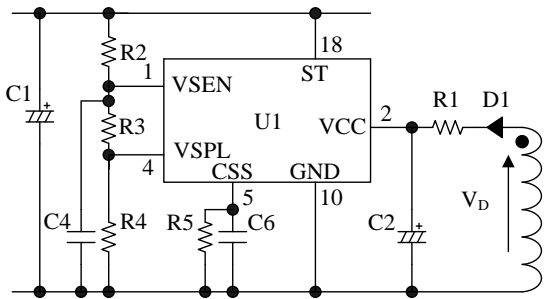

Figure 8-11. VCC pin peripheral circuit
Figure 8-11 shows the VCC pin peripheral circuit.
During the IC operation, the rectified voltage from the auxiliary winding voltage, V_D , of Figure 8-11 is a power source to the VCC pin.
- The value of C2 in Figure 8-11 is increased and/or the value of R1 is reduced.